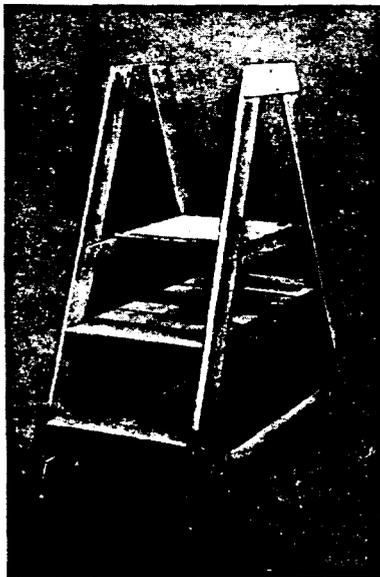

Figure 29. KS-21415, L1 Ladder
- 4.03** **KS-21415, L1:** The rolling platform ladder (Comcode 401384300, Figure 29) provides a 3-step ladder, equipped with retractable swivel casters that allow the unoccupied ladder to be moved horizontally in any direction. Rubber shoes attached to legs secure the ladder in position when occupied by personnel. The platform ladder is approximately 1 foot 9 inches (533 mm) wide, 4 feet 3 inches (1295 mm) long, and 4 feet 4 inches (1321 mm) high.